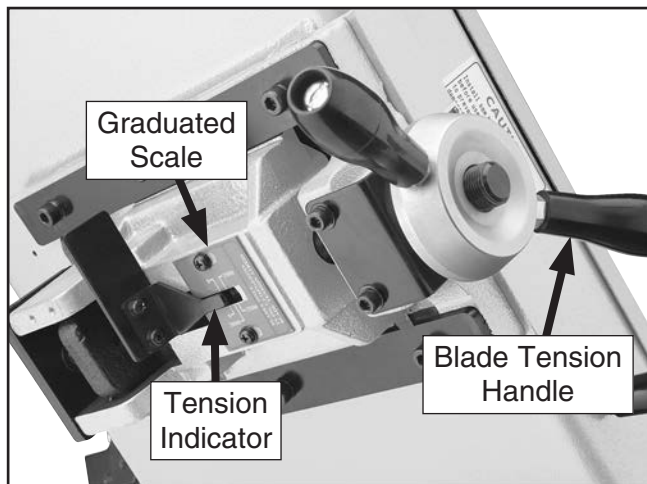

Figure 39. Blade tension components.
3. Using tension indicator and graduated scale as a guide, turn blade tension handle clockwise to tension blade or counterclockwise to loosen blade (see **Figure 39**).
To adjust the upper blade guide, loosen the blade guide knob (see **Figure 39**) and slide the upper blade guide as close to the workpiece as possible, then tighten the knob.